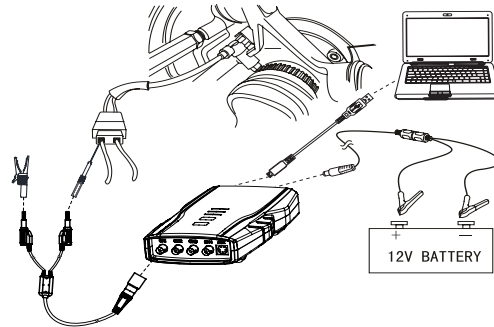

Fig. 26: Equipment connection
1. Connect equipment according to Fig.26, switch on power supply.